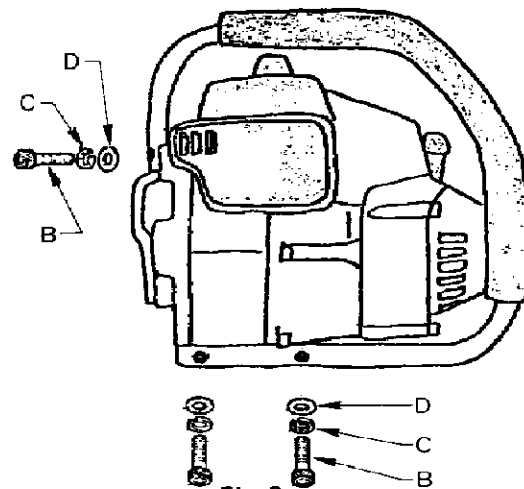

Fig. 2
2. Fit **SPRING WASHER (C)** and **WASHER (D)** on three **SOCKET HEAD SCREW (B)** and secure finger tight. See Fig. 2.